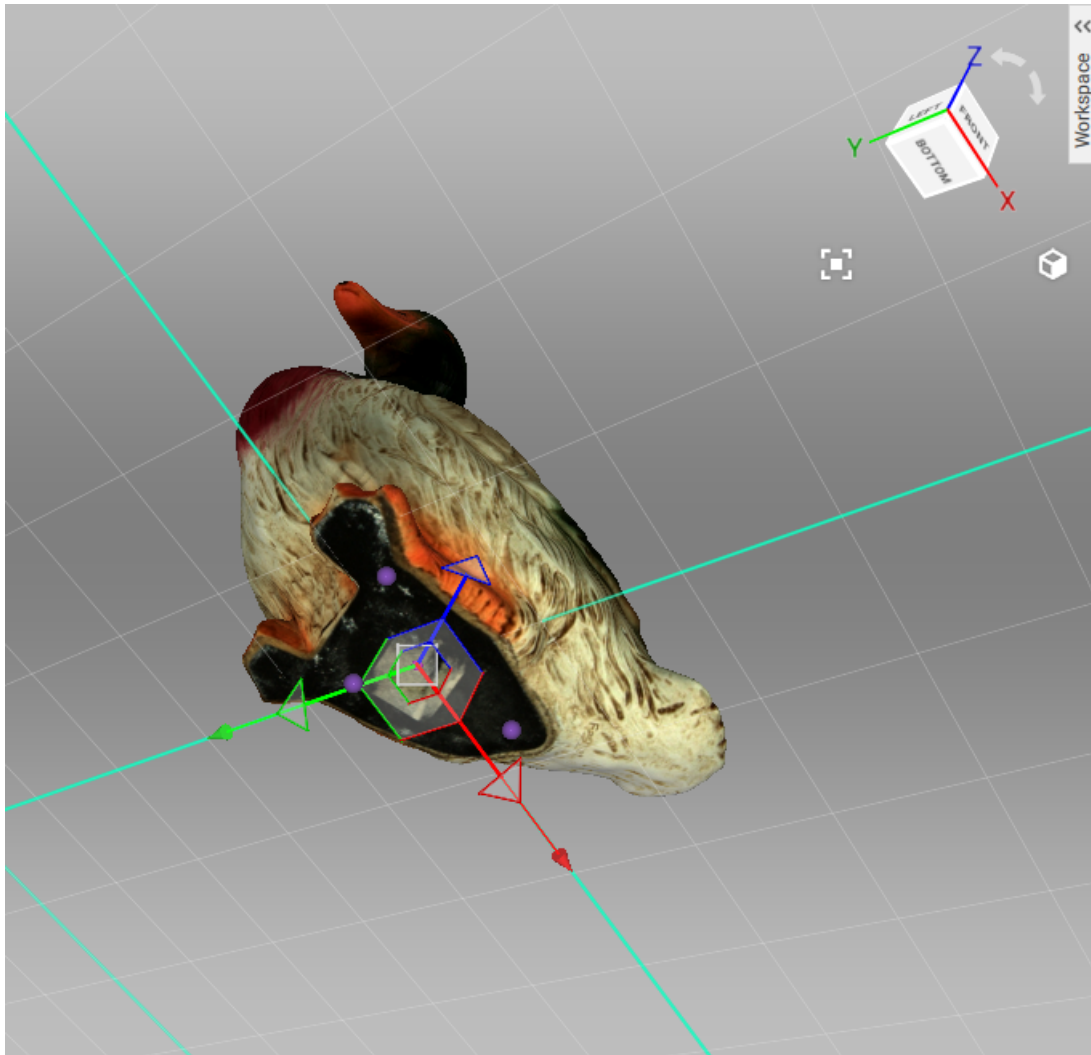

Figure 103: Positioning the model in the global coordinate system.
4. Use **LMB** to specify at least three points on the surface; the plane will automatically pass through their center of mass (see Figure 103). The following conditions will then apply: